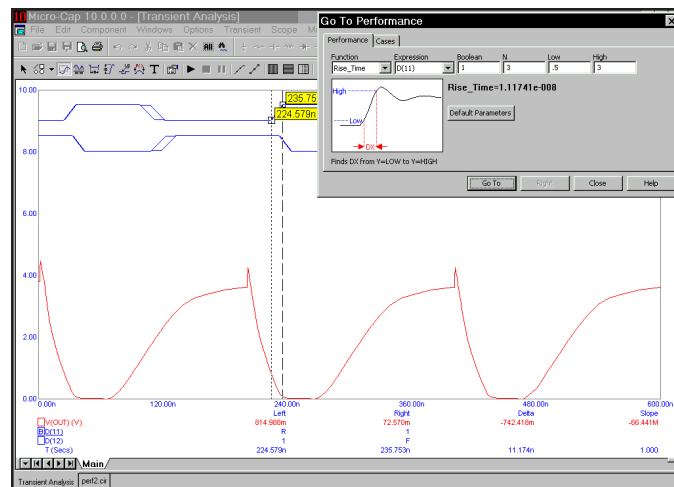

Figure 7-24 Measuring digital rise times
Performance functions also work on digital curves. Select D(11) from the Expression list and Rise_Time from the Function list. Set N=2 and click the Go To button. The result looks like Figure 7-24. Click Close.